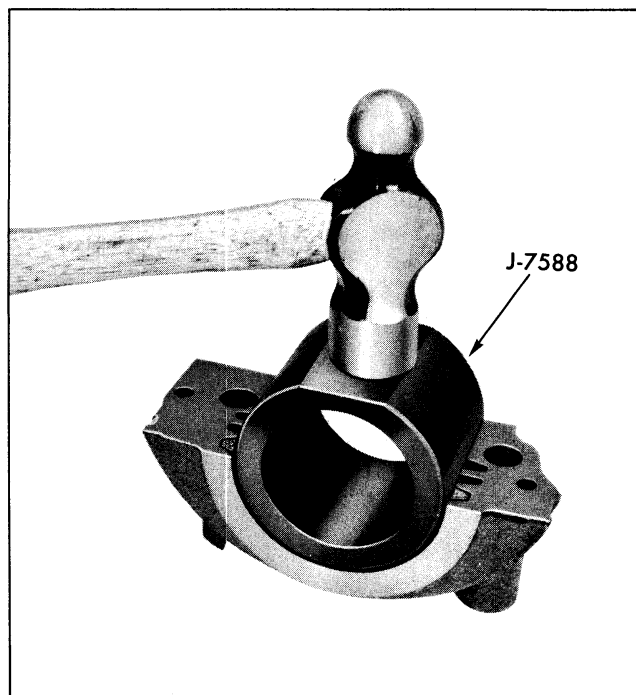

Fig. 6-5 Compressing Lower Seal in Bearing Cap with J-7588
7. Form a new seal in the cap (Fig. 6-5).
8. Remove the newly formed seal from the cap and cut four (4) pieces approximately 3/8" long from this seal.
10. Form another new seal in the cap (Fig. 6-5).